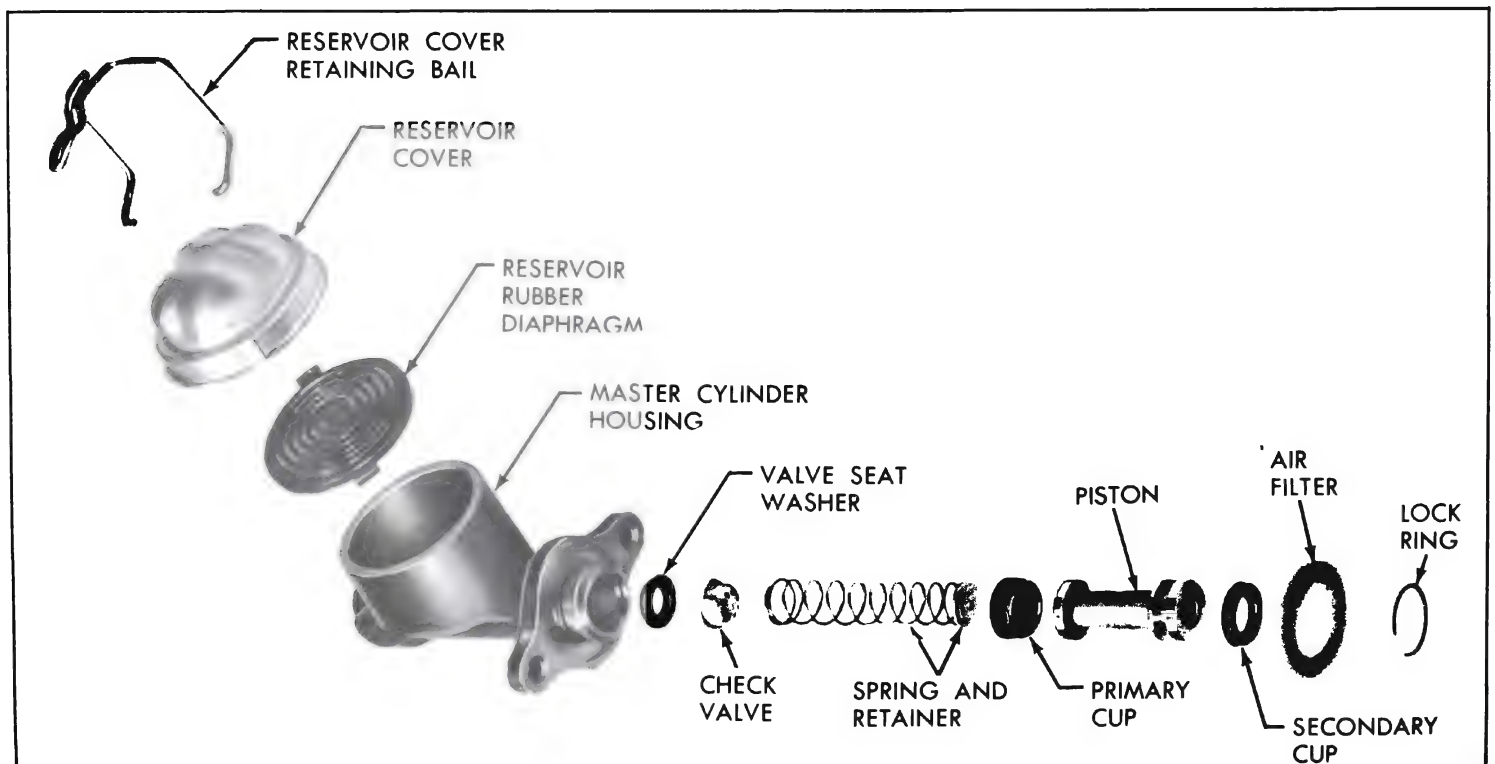

Figure 9-26—Master Cylinder - Exploded View
17. From master cylinder bore, remove snap ring, master cylinder piston, primary cup, spring and retainer assembly, check valve assembly and valve seat washer. See Figure 9-26.
3. Wipe master cylinder bore with a coat of clean brake fluid. Into bore, place valve seat washer. See Figure 9-26. Press check valve in open end of spring and retainer; place assembly in